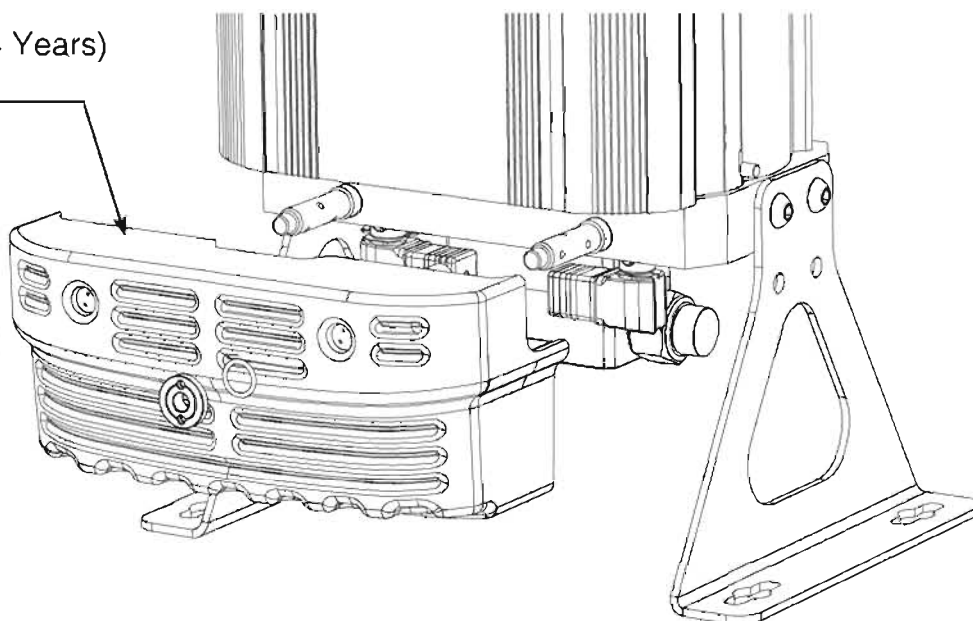

Figure 1.
2. Unscrew the silencer fixing nut using a 20mm pin spanner and remove the O ring to release the silencer box from the assembly. (See Figure 1)